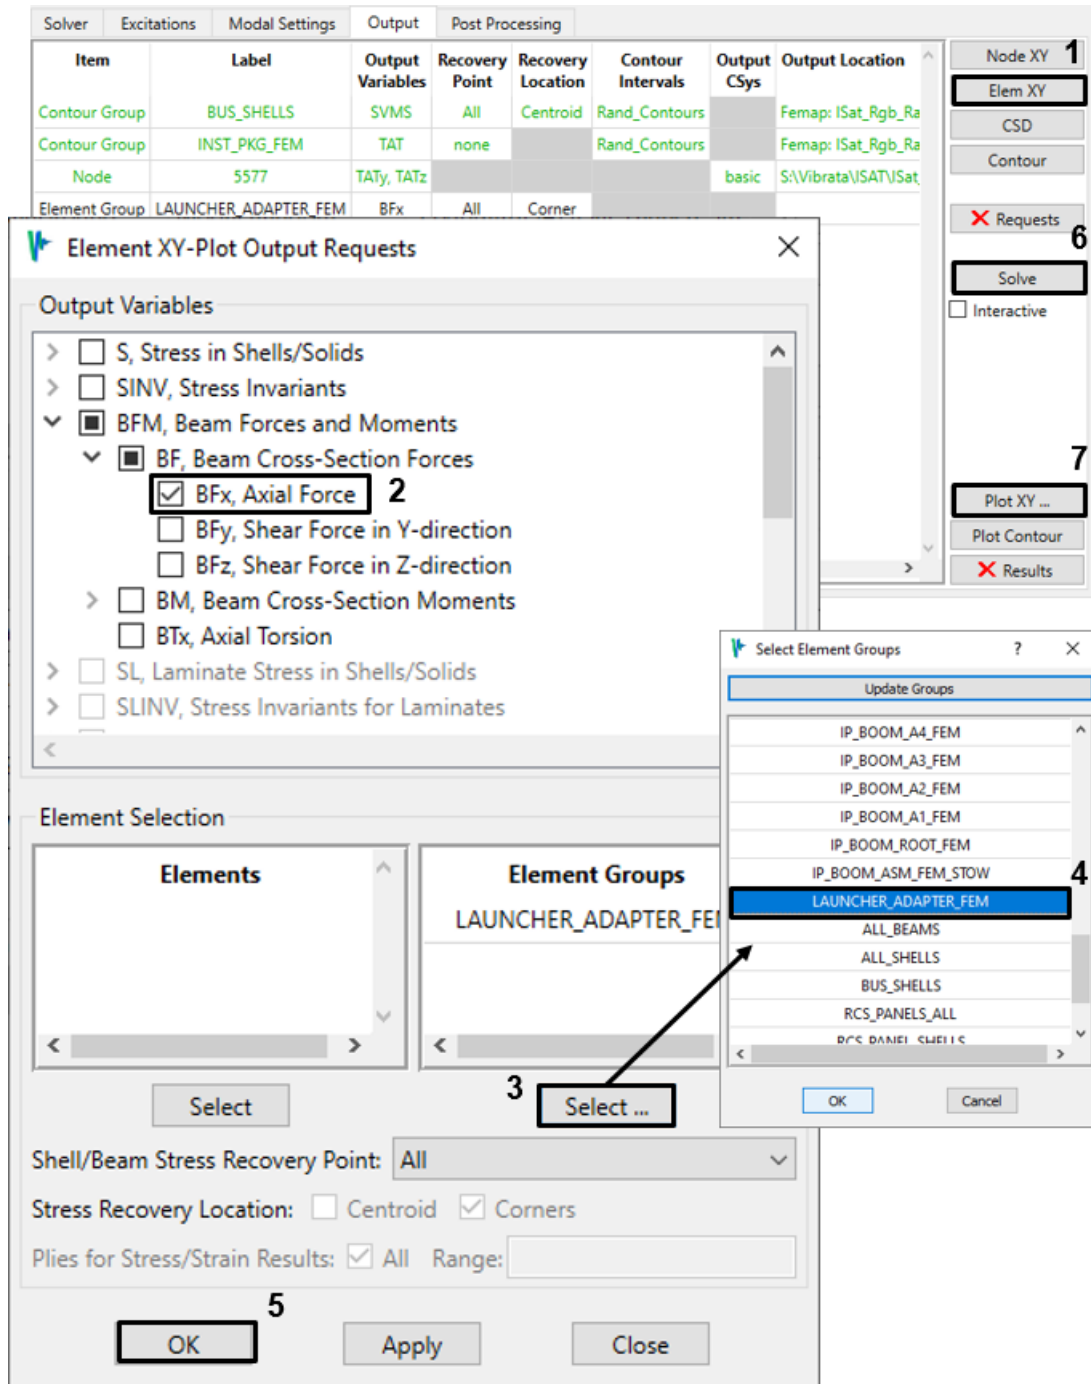
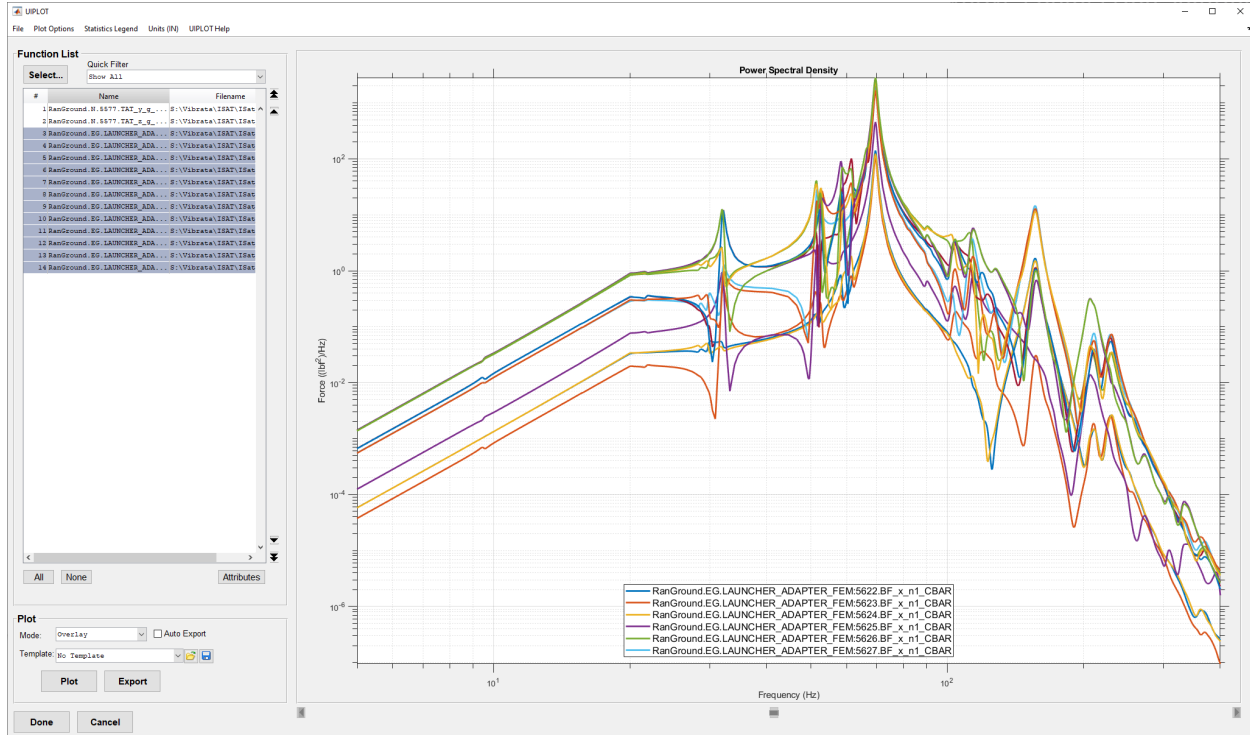

Figure 4-51. Request axial forces in the launcher adapter legs.
Figure 4-52. Axial forces in the launcher adapter legs, rigid base.
- It is also important that we not exceed allowable loads in the launcher adapter legs. Request axial force responses for the elements in group "LAUNCHER_ADAPTER_FEM" (Figure 4-51). Solve and plot (Figure 4-52). The RMS values, along with other statistics about the functions, can be displayed using the *UIPLOT* dialog's *Statistics Legend* menu. Note that element 5632 has the largest RMS value.